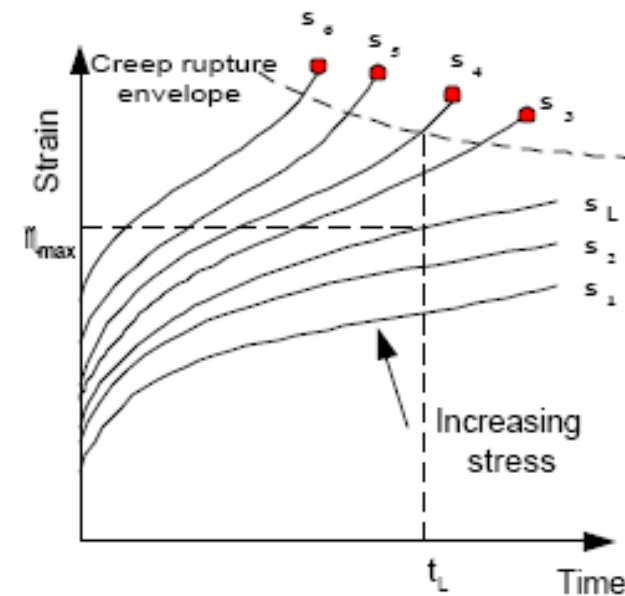

Figure 5. Design criteria by creep curves
Figure 5 (A) Relaxation modulus at a fixed temperature of a polymer sample: (1) of very low molecular weight (dashed line on left), (2) of moderate to high molecular weight (solid lines), and (3) when cross-linked (dashed line on right). (B) Effect of molecular weight on the modulus-temperature curve of amorphous polymers. Modulus is given in dyn/cm². The characteristic or reference time is t_r ; the reference temperature, T_g .